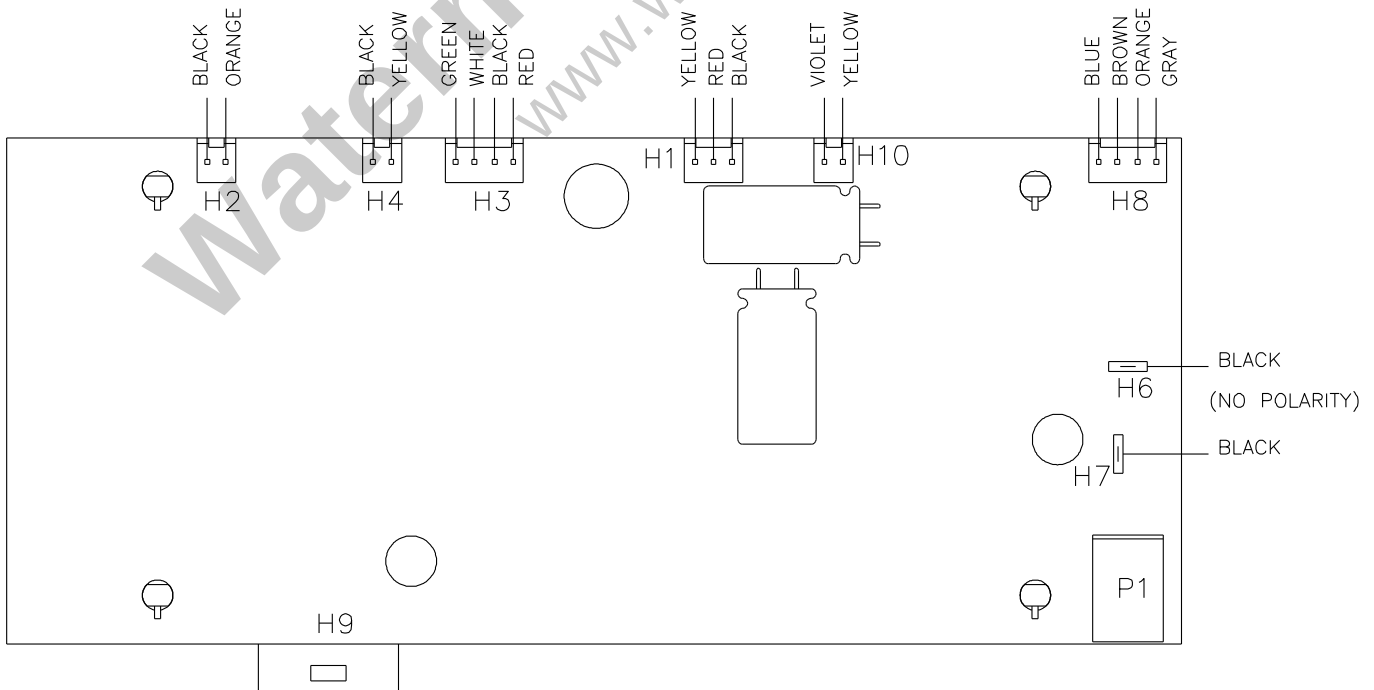

FIGURE 1
Removal Instructions (See Figure 1)
Installation Instructions (See Figure 1)
- Re-connect the circuit board connections as shown in **Figure 1**.